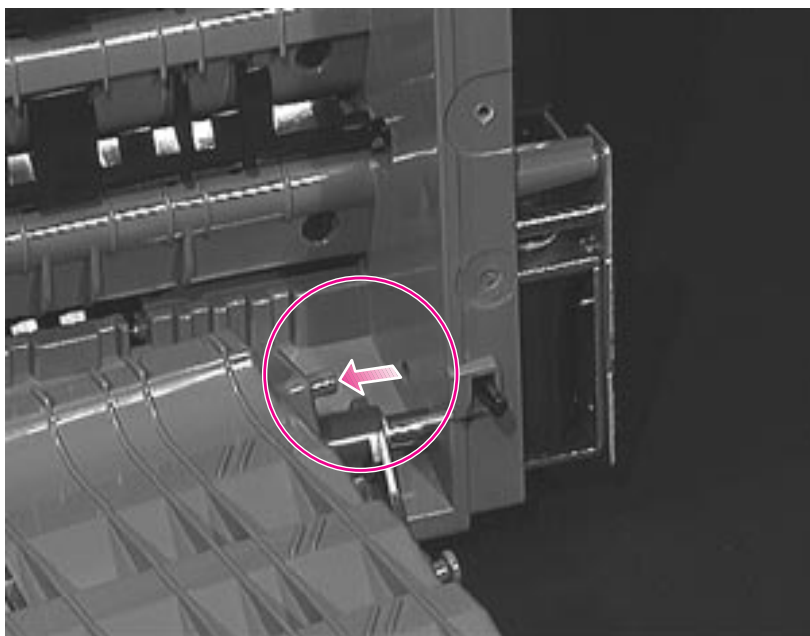

Figure 6-104 Right Door Assembly (Paper Path Cover) (4 of 4)
- 5 Release the plastic pin on the right end, and remove the paper path cover as shown in figure 6-104.